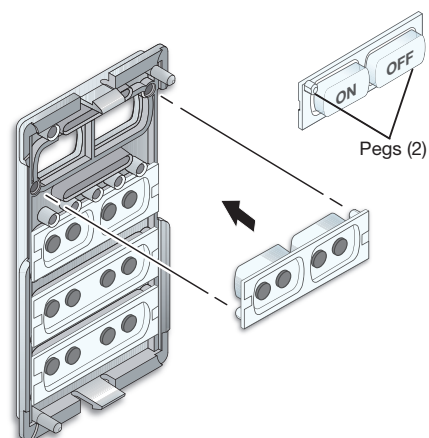

Figure 11. Inserting Buttons
- b. Align the two pegs in the upper left and lower right corners of the button or button pair (see figure 11) with the corresponding holes in the bezel. Press the button or buttons into the bezel so the buttons and pegs are seated into the holes and bezel opening.